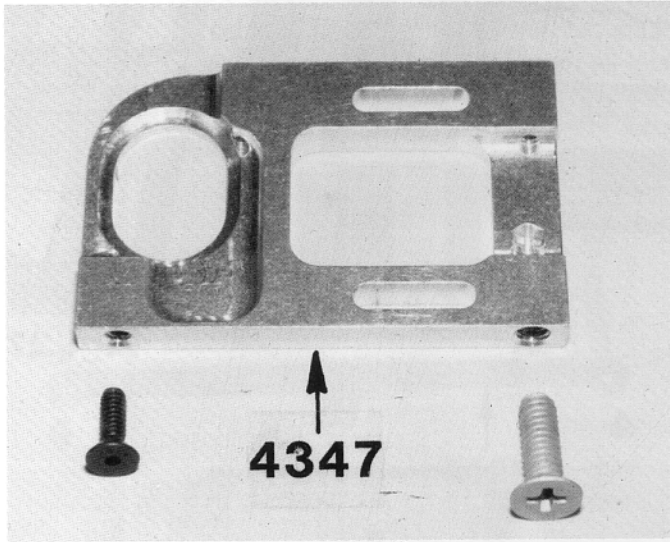

**Fig. 19**
□ **Figs. 19 & 20**—Open Bag #4. Install the left hand #4345 bulkhead onto the lower brace with the three flat head aluminum screws as shown. Do not overtighten.